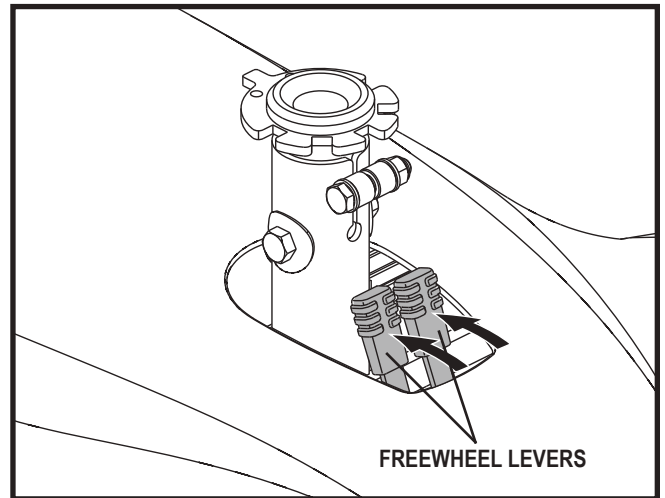

Figure 6. Freewheel Mode (Drive Disengaged)
3. Pull both levers rearward toward the seat post to disengage the drive motors (freewheel mode). **See figure 6.**